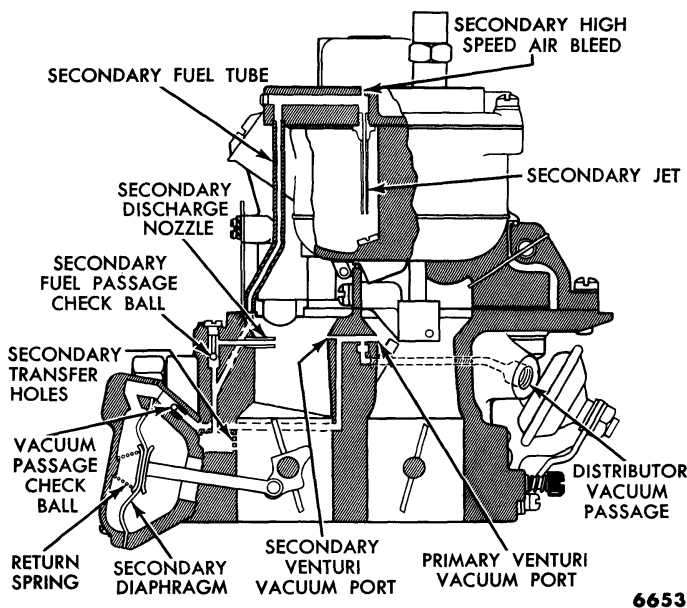

Fig. 56—Secondary System
(5) **SECONDARY SYSTEM.** To provide sufficient fuel-air mixture to operate the engine at maximum power, the mixture supplied by the primary stage of the carburetor is supplemented by an additional quantity of fuel-air mixture from the secondary system (fig. 56).